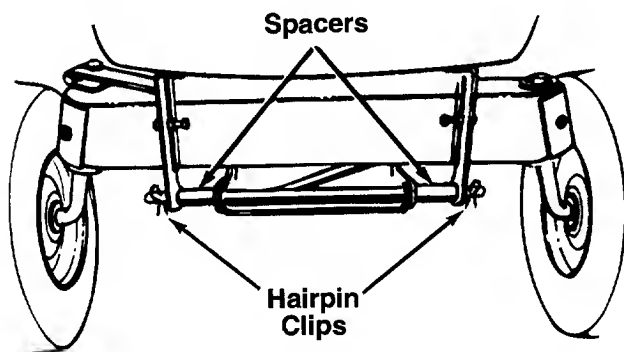

FIGURE 15.
7. Disassemble the front cross bar from the tractor by removing two hairpin clips. Use the cross bar to attach the deck stabilizers, the diagonal brace and two spacers to the tractor frame, using the forward set of holes. Secure with the two hairpin clips just removed. See figure 15.